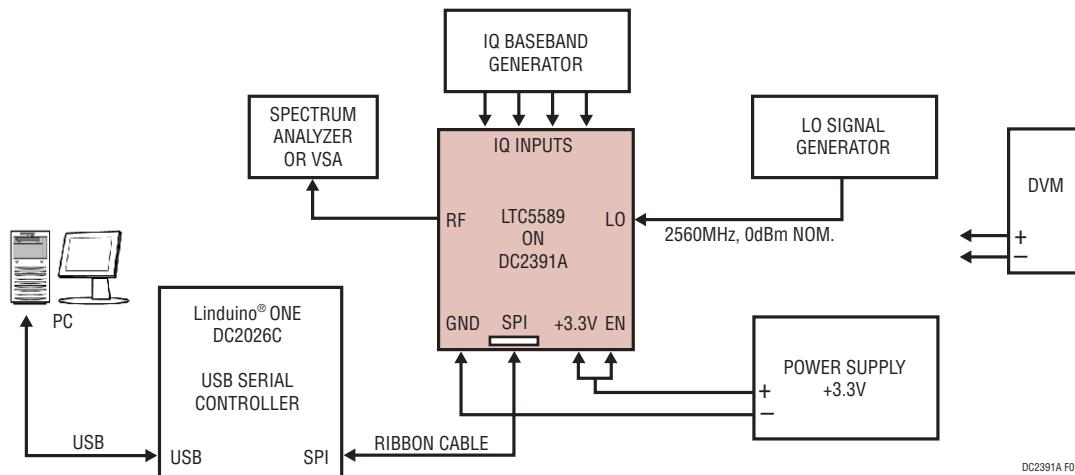

Figure 1: Test Setup for RF Performance Measurements
1. Remove the DC2391A from its protective packaging in an ESD-safe working area (see Figure 1). Make sure jumper JP1 is installed ( $V_{CTRL} = V_{CC}$ ).
4. Apply  $3.3$  V to DC2391A's enable input (EN). The enable voltage must never exceed the LTC5589's  $V_{CC}$  supply voltage by  $0.3$  V or drop below  $-0.3$  V.